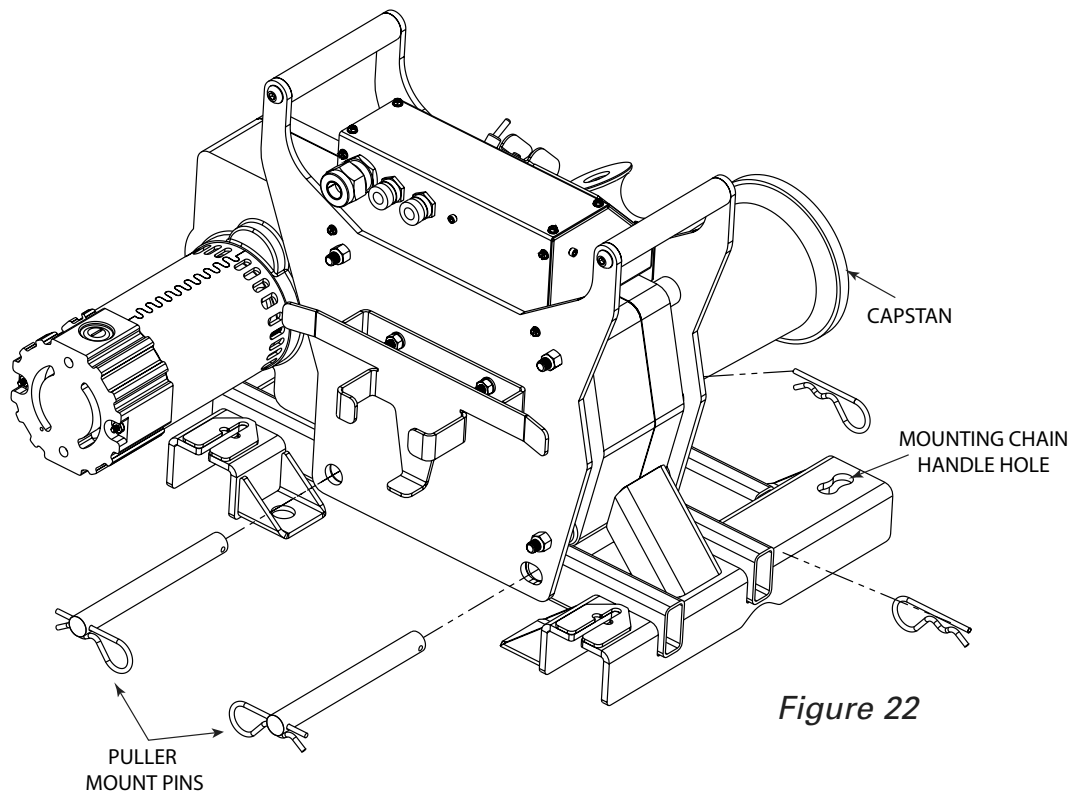

Figure 22
**NOTE:** Install Model #1450 puller onto the chain mount by lowering the puller over the chain mount and inserting the puller mount pins (See Figure 22). Secure the puller mount pins with spring clips. The puller **MUST** be mounted onto the chain mount with the capstan on the same side as the mounting chain handle holes. (See Figure 19).